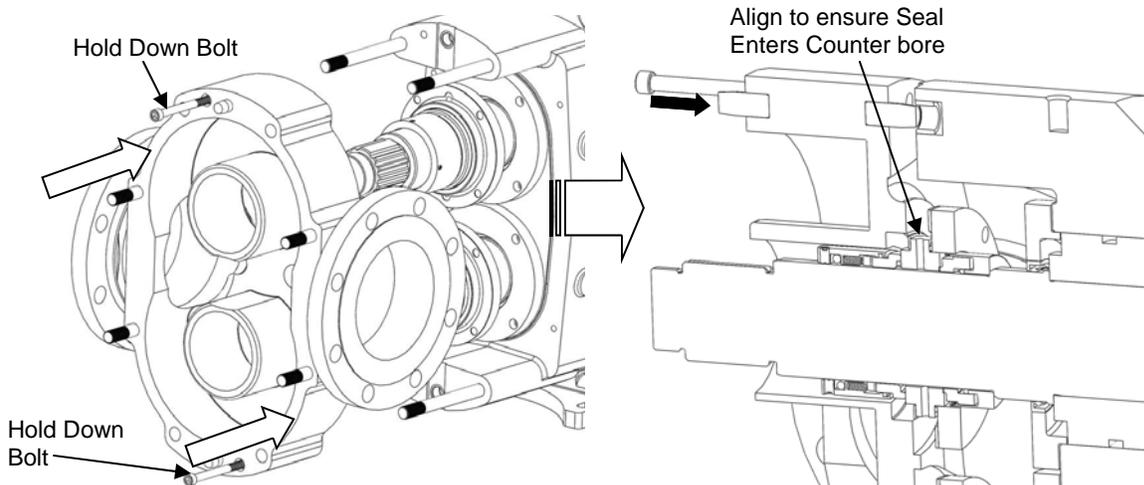

Figure 65: XP Installing Pump Body
1) Make sure all seal components are installed by following “Seal Maintenance” instructions provided on pages 18-20. Ensure all dowels are in place and that all parts including body, rotors, and jam nuts are clean and free of foreign matter. Slowly slide the body over the gear case studs and shafts, ensuring the stationary seals enter the counter bores on the body without damage (Figure 65). Install the two hold down bolts and tighten the body against the gear case to ensure the dowels are engaged.